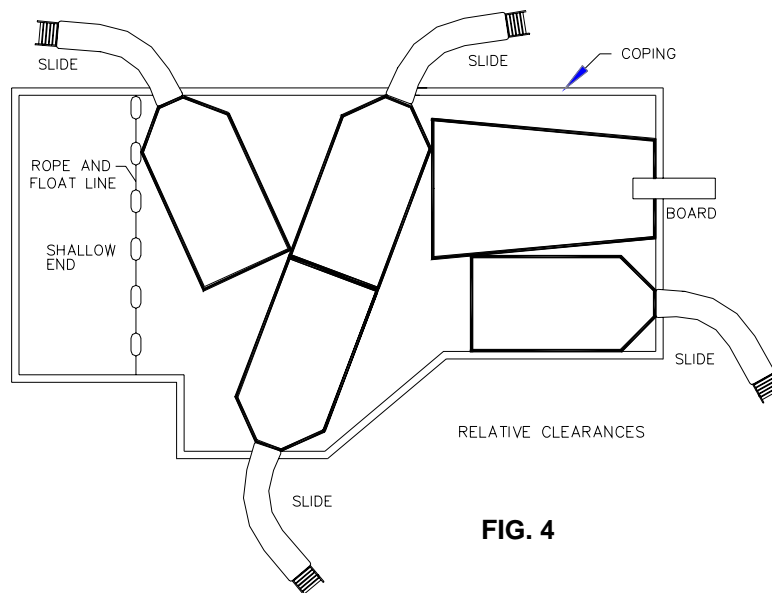

FIG. 4
2. A minimum clearance area in front of the slide shall be maintained away from the coping, another slide, a diving board or a rope and float line. (see FIG.4)
C. The minimum clearance area of a slide or diving board shall not intersect any coping or rope and float line. (see FIG.4) The minimum clearance area of a slide or diving board may intersect each other provided that they are not used simultaneously.